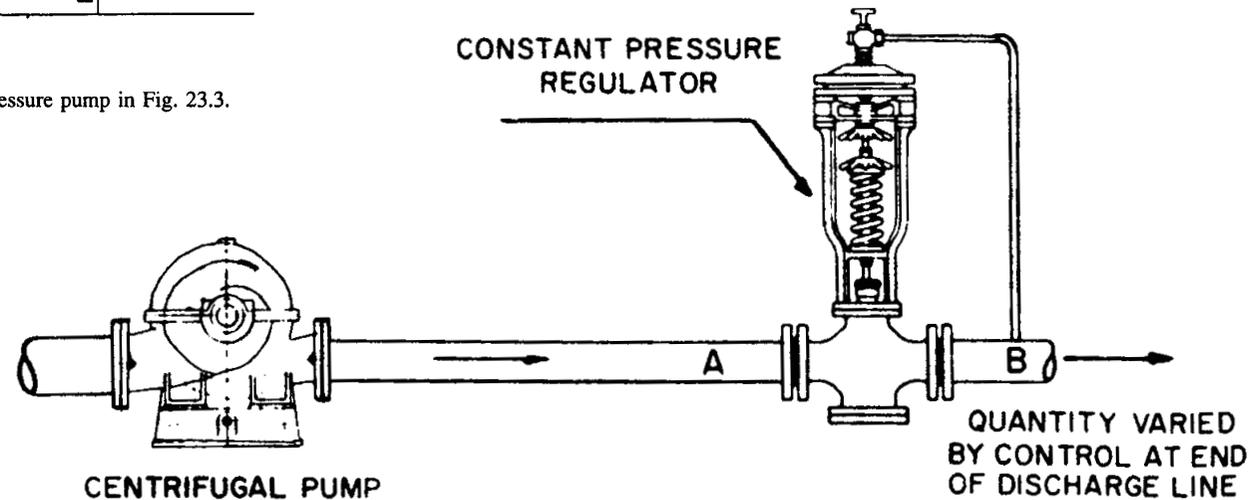

Fig. 23.3 Constant-pressure regulator installed in pump discharge.
- Controllo della pressione Fig. 23.3 e 23.4